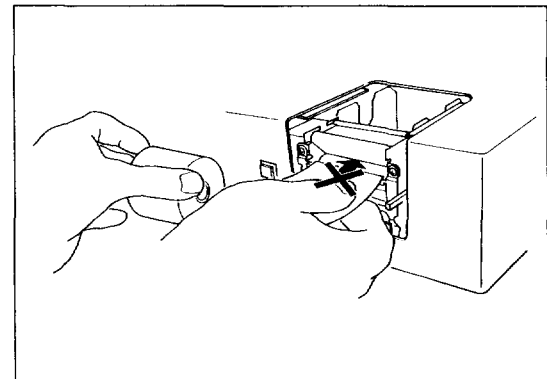

Figure 23
- ❑ Do not insert the paper up side down (see Figure 23).